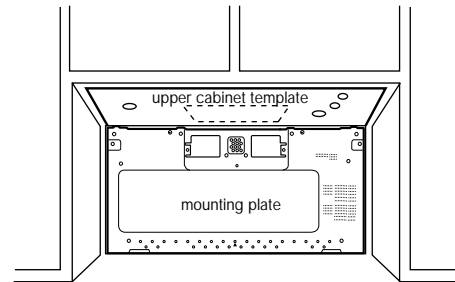

Figure 23
4. Center mounting plate on rear wall installation area by lining up the plumb line on wall with centerline on mounting plate. Make sure the minimum width is 30 inches and that the top of the mounting plate is located a minimum of 30 inches above the cooking surface. See Figure 23.
5. Measure the bottom of the upper cabinet frame. Trim the edges "A" "B" and "C" on the upper cabinet template so that the template will fit on the bottom of the upper cabinet. If upper cabinet has a recessed frame, trim template so that it fits inside the recessed area. Align the centerline of the upper cabinet template with the centerline of the mounting plate; then securely tape or tack the upper cabinet template in place. See Figure 23